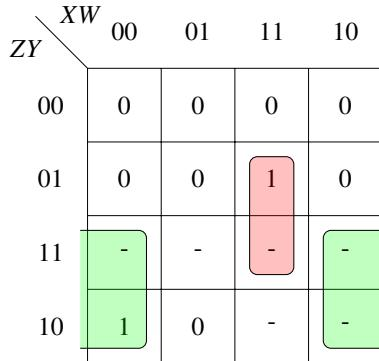

Fig. 4.8: K-map for D with don't cares
5. The revised K-map for D is available in Fig 4.8. Show that